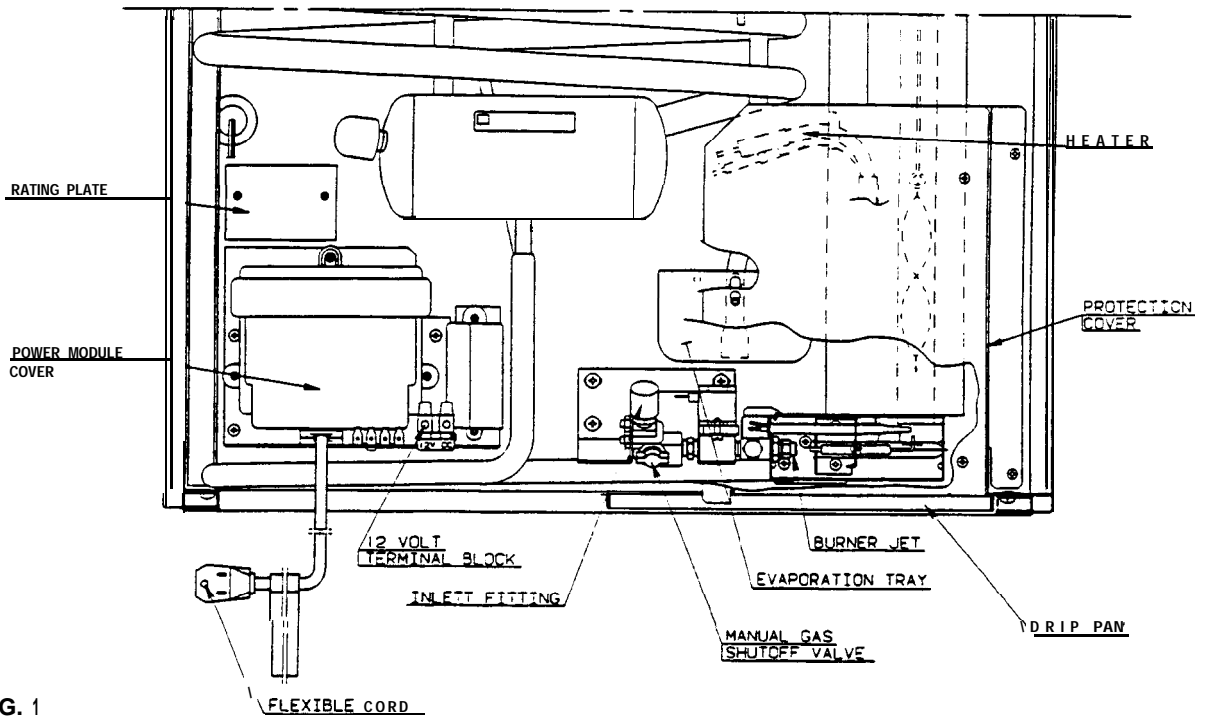

FIG. 1
All refrigerator models require a 12 volt DC supply (even though 2-way models are designed to operate on 120 volts AC and gas, a 12 volt DC control is required to maintain the automatic energy system). The DC lead connections are at terminals located at the rear of the refrigerator. (see FIG. 1). One lead is marked positive (+) and the other negative (-). Correct polarity must be observed when connecting to the DC supply.
2. Check that the gas flame is lit and the gas mode indicator lamp (C) is on.
4. Wait for one minute. The check indicator lamp (D) should now be lit and the gas mode indicator lamp should be off.
5. Remove protection cover (see FIG. 1) and open the gas valve. Test that no gas comes through the burner jet. Use soupy water, rinse afterwards with fresh water. Be careful not to damage the burner jet, replace cover.